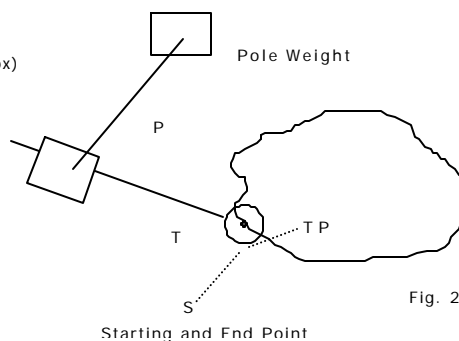

Fig. 2
5. Select a starting point S somewhere on the area periphery and move the tracer point TP over it. (fig.2)